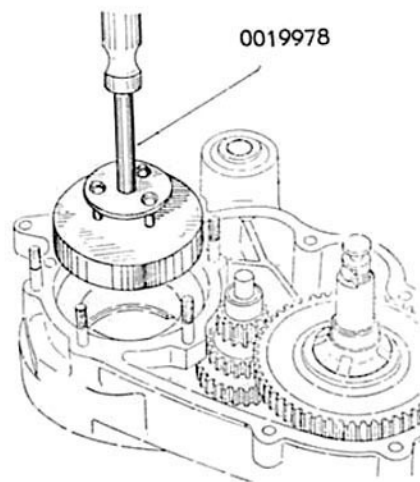

Fig. 116.
6. Check assembly position of kickstarter (see N.B. at Fig. 116).